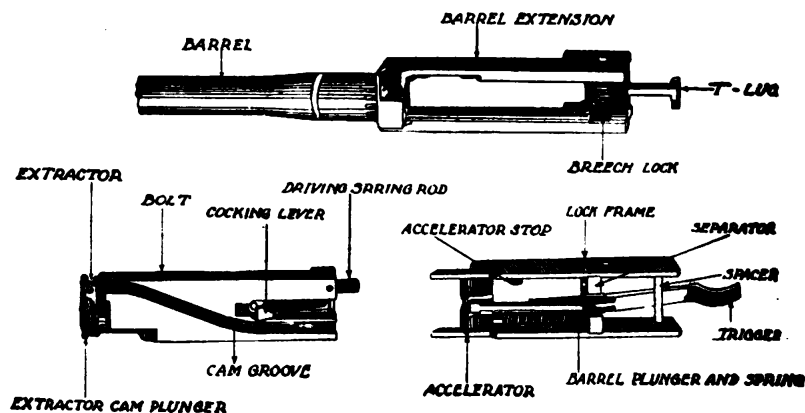

FIGURE 184. Barrel extension, bolt, and lock frame groups.
Q. Point out and state the uses of the important parts shown in figure 184. A. See figure 184.